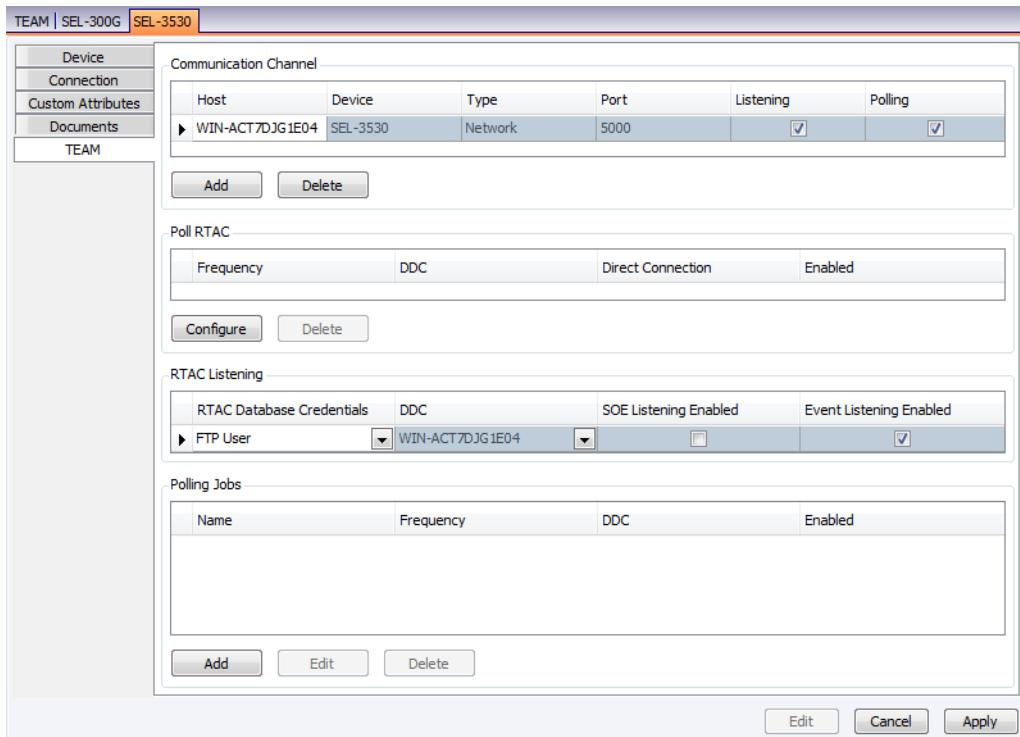

Figure 172 RTAC TEAM Tab
Step 15. Under **RTAC Listening**, clear the **SOE Listening Enabled** check box. The **TEAM** tab should look similar to *Figure 172*.